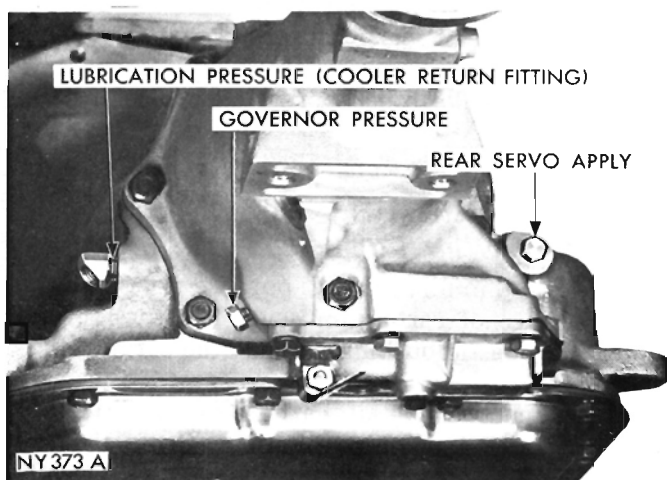

Fig. 38—Pressure Test Locations (Rear End of Case)
(1) Install a "tee" fitting between the cooler return line fitting and the fitting hole in the transmission case at the rear of left side of the transmission (Fig. 38). Connect a 0-100 psi pressure gauge, Tool C-3292 to the "tee" fitting.
(2) At 1,000 engine rpm, with the throttle closed and transmission in direct, lubrication pressure should be 5-15 psi. Lubrication pressure will be approximately doubled as the throttle is opened to maximum line pressure.
(1) Connect a 0-300 psi pressure gauge, Tool C-3293 to the apply pressure take-off point at the rear servo (Fig. 38).
(2) With the transmission control in R (reverse) position and the engine speed set at 1600 rpm, the reverse servo apply pressure should be 240-280 psi.
(1) Connect a 0-100 psi pressure gauge, Tool C-3292 to the governor pressure take-off point, located at the lower left side of the extension near the mounting flange (Fig. 38).
(2) Governor pressures should fall within the limits given in the "Governor Pressure Chart."